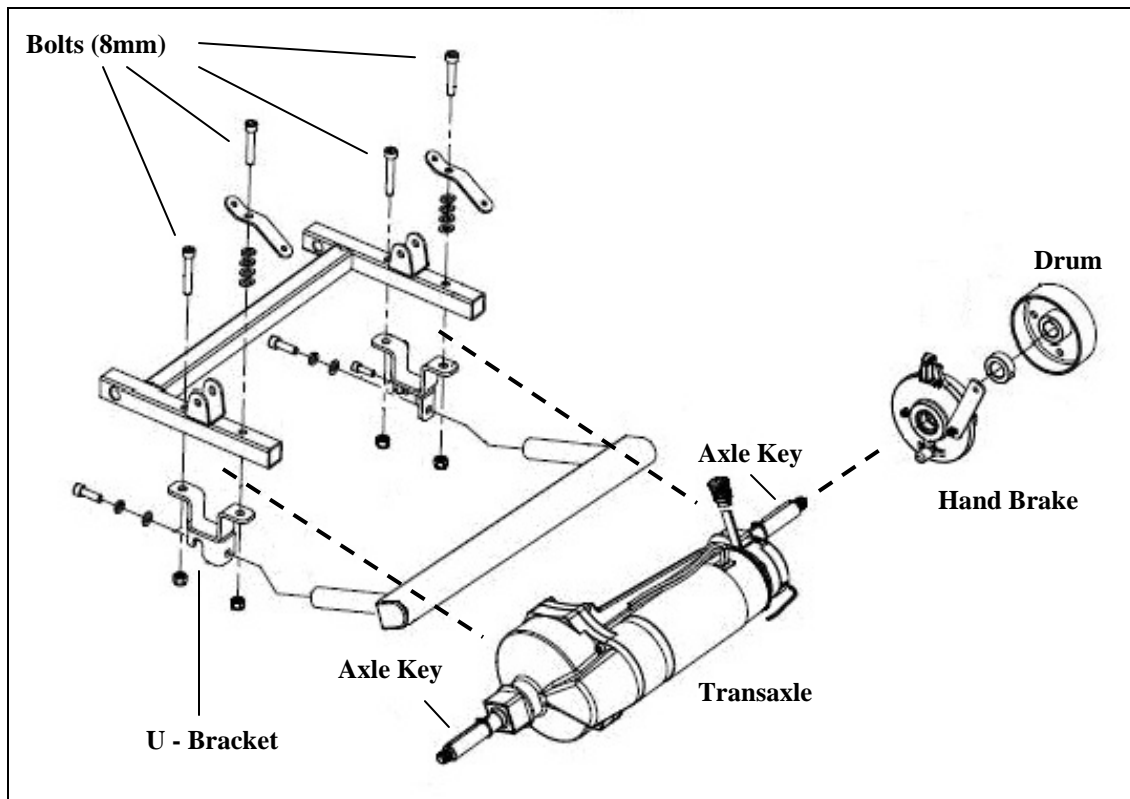

Figure 14. Scooter (Rear Section)
- 10) Remove the (2) 8mm bolts connect each u-bracket. Repeat on the opposite side. See figure 14 on page 19.